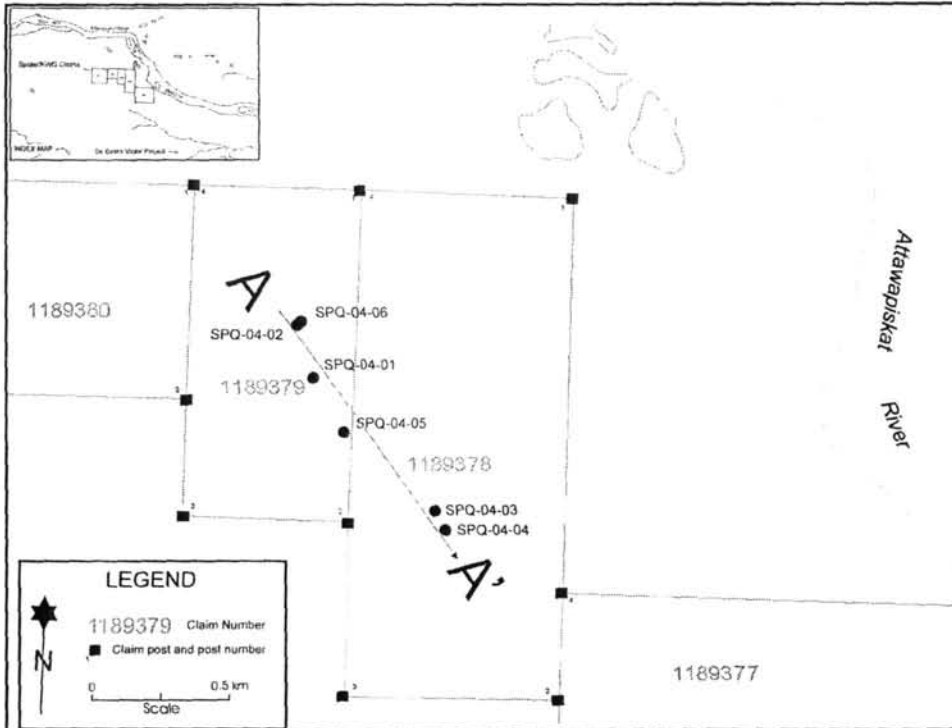

Figure 10. Map of part of the claims showing the locations of the drill holes and the line of section A-A' in figure 11.
- 11. Hypothetical section along line A-A' shown, in Figure 10, illustrating the relative positions of the kimberlites. 13
The drilling program was very successful in discovering three new, diamondiferous, kimberlites within the Attawapiskat swarm. The relationships of these kimberlites to the previously known kimberlites is shown in Figures 10 and 11. Although some of these kimberlites are small, their proximity to other, larger, kimberlites may yield a sufficiently large body to be of economic interest. It is therefore imperative that all of the diamonds recovered to date be evaluated as to their grade and value. If the results of this evaluation are favourable, then further sampling would be required. Note that the abundance of diamonds is not necessarily an indication of value. It should also be noted that the section of kimberlite sampled by hole SPQ-04-05 was quite soft and broken, the